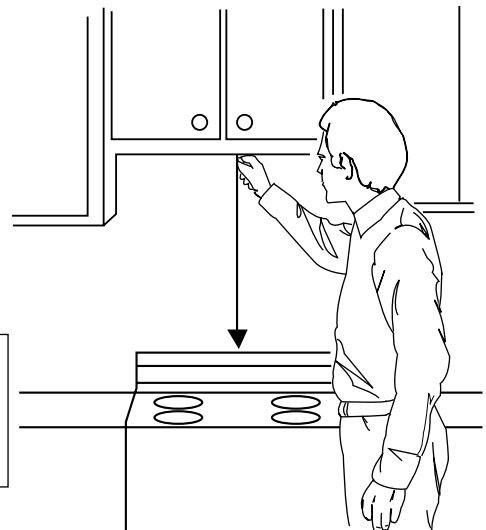

Figure 21
1. Using a plumb line and (metal) measuring tape, find and mark the vertical center line on the back wall, as in Figure 21.
See Figure 21.